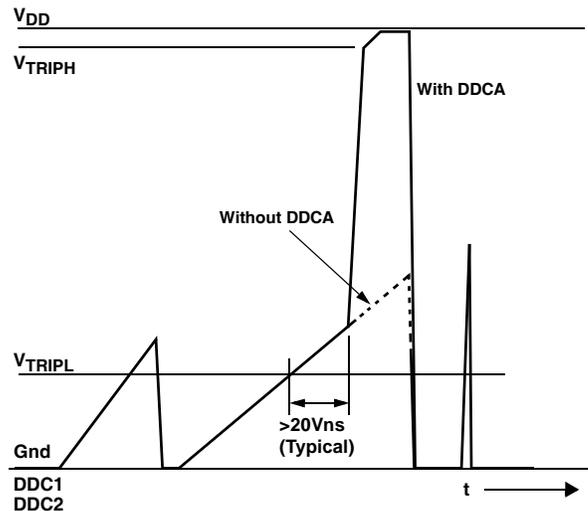

FIGURE 10. NOISE SUPPRESSION. BOOST CURRENT APPLIED WHEN INPUT SIGNAL EXCEEDS 20Vns (TYPICAL)
- 5. Measured as area under triangular waveform above  $V_{TRIPL}$ , with time as base and  $V_{IN}$  as height (See Figure 10).